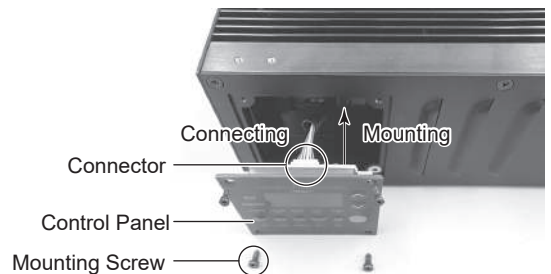

Fig. 39
- (3) Connect the connector inside the CONTROLLER to the connector of the rear of the Control Panel. (Fig. 39).
- (4) Re-attach the Control Panel using the 4 mounting screws (Fig. 39).